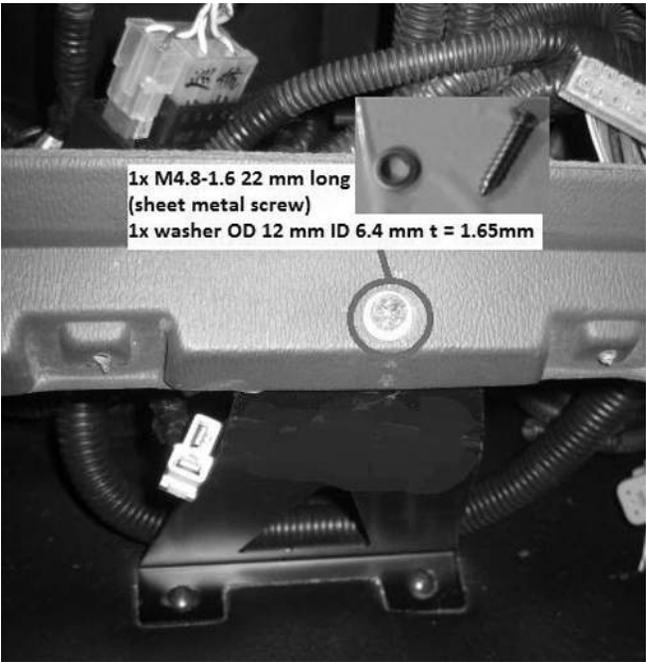

Figure 26-1
1. Install the screw and washer (see Figure 26-1).